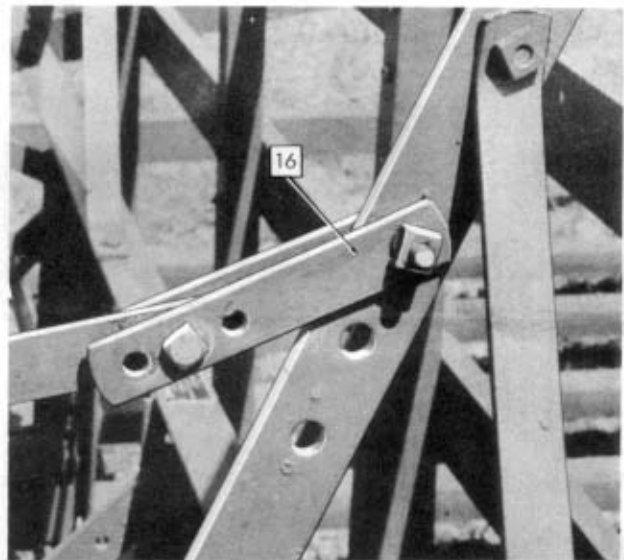

Figure 7
**Step 22:** Attach lift rod extension straps (16) (single hole end) to top of the series of three holes in steel push-off upright. Figure 7.
**Step 7:** Attach the two lift rod extension straps (16), Figure 7, to the front end of the two lift rods, using pipe bushings.